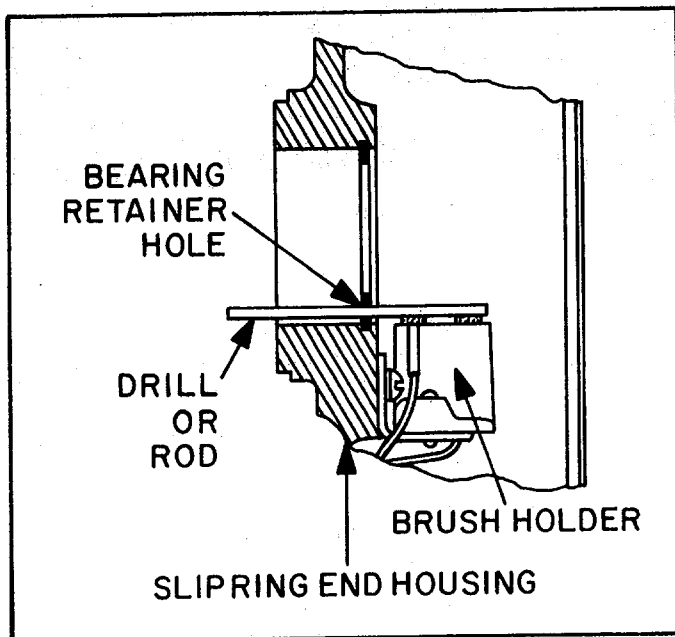

Figure 2-9
3. Install two brush springs and brushes into holder. Depress brushes (with leads in holder slots) and insert a small drill or metal rod through the snap ring hole to hold the brushes in place (see Figure 2-9).